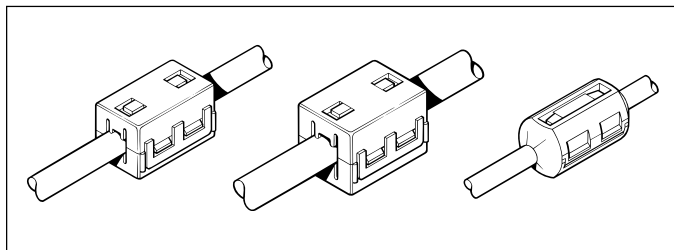

Fig. 2-8
- A "suppression ferrite" may be attached to one of the cables. See Fig. 2-8. If you must remove the ferrite during installation, be sure to reassemble it in the same position.